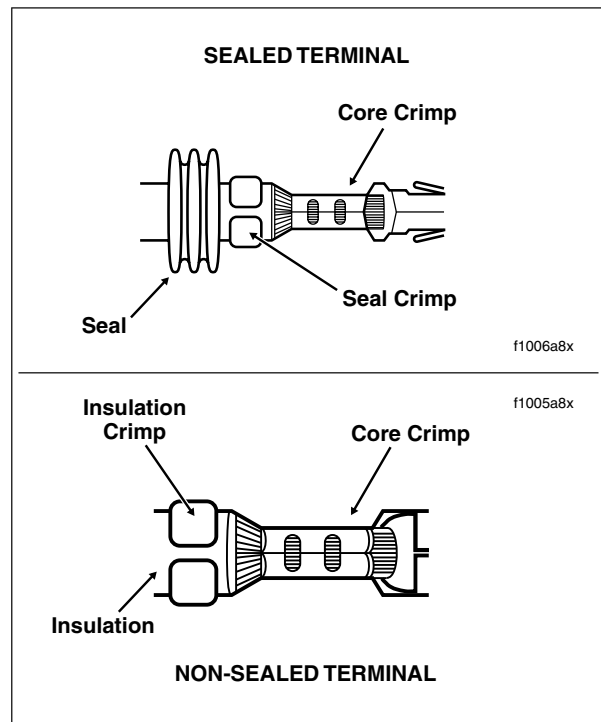

Figure B-37. Inspect Core and Insulation/Seal Crimps
11. Inspect the quality of the core and insulation/seal crimps. Distortion should be minimal. See Figure B-37.